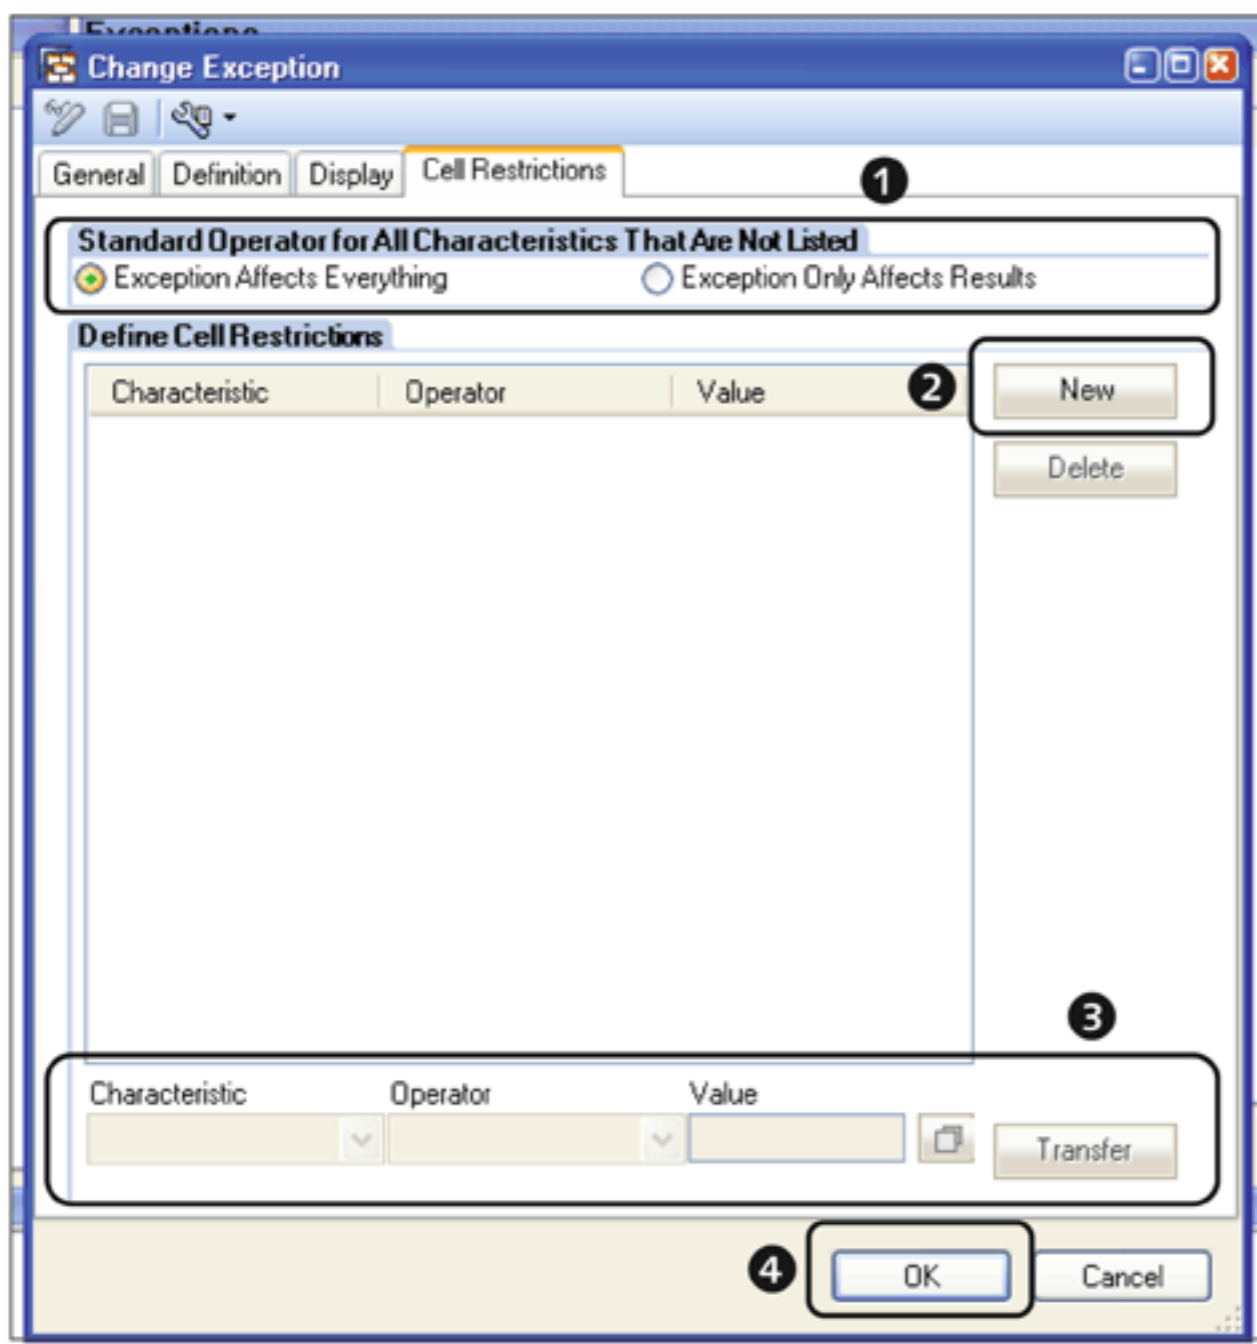

Figure 9.91 Exceptions: Cell Restrictions
On the CELL RESTRICTIONS tab, you define the data set that should be evaluated for the exception. The option EXCEPTION AFFECTS EVERYTHING (❶ of Figure 9.91) will apply the exception to all of the records in the query output, whereas the setting EXCEPTION ONLY AFFECTS RESULTS will evaluate and hence highlight only the result rows of the query output. You can also define specific cell restrictions if you want the exception to be evaluated for only a specific set of data. To create this restriction, click on the NEW button (❷), and then define and transfer the restriction using the fields and the TRANSFER button (❸).